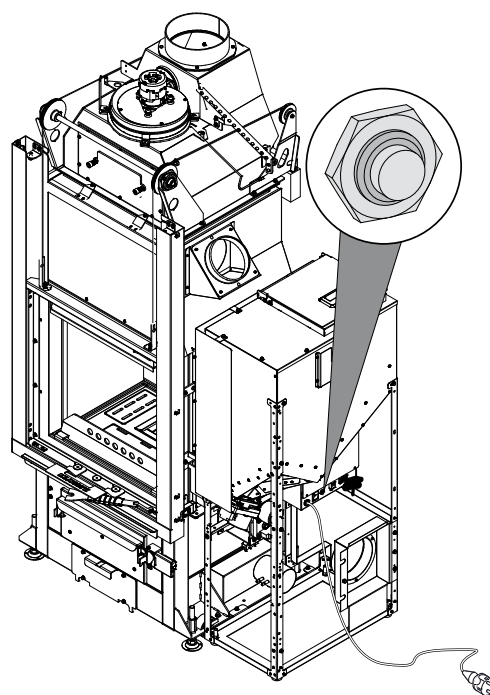

Fig. 5.2
- While cleaning is in progress, hold the microswitch (Fig. 5.2) down for five seconds, making sure to keep the brazier door closed.